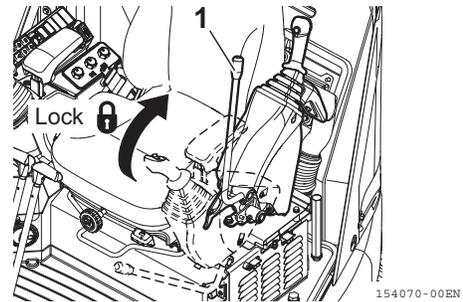

Fig. 3-17
1. Check that the lock lever (**Fig. 3-17, 1**) is in the lock position.
*When the lock lever (**Fig. 3-17, 1**) is in the unlock position, the engine cannot be started. To start the engine, ensure to set the lock lever (**Fig. 3-17, 1**) to the lock position.*